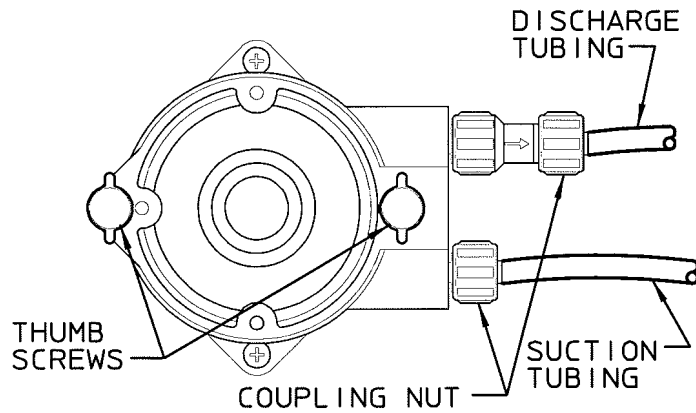

Figure 7a: Pump Head Assembly with Front Cover Attached
- 3) Loosen coupling nuts and remove the tubing from suction and discharge ports - see Figure 7a.